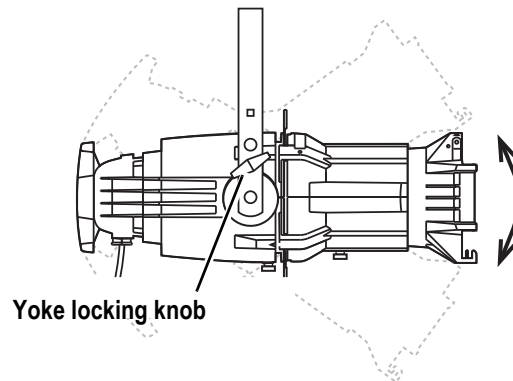

Figure 11
- Step 1: Loosen the yoke locking knobs (see Figure 11). **Do not** remove them.